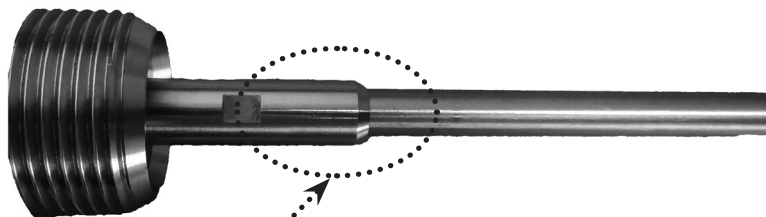

Fig. 25: The threaded connection of the electrode holder with the rod electrode
1. Heat the junction place (threaded connection) of the electrode and the electrode holder (see Figures 25 and 26) using a heat gun at about 120-150 ° C (or 220-250 ° C for high temperature version).